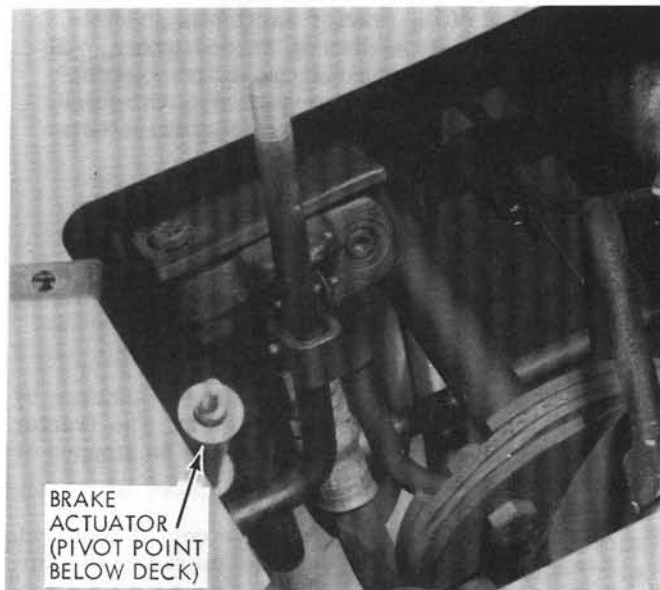

Figure 11.
Refer to the accompanying Lubrication Chart (Figs. 11, 11-A, 11-B, and 12) and the figures stated in the following:
1. BRAKE ACTUATOR AND PIVOT. Grease these pivot points (Figure 11).
3. LIFT LINKS. Sliding surfaces and slotted holes (Figure 11-A). Ref. No. 1
8. FRONT POWER TAKE-OFF (Figure 11-B). Apply grease around tension springs (Ref. No. 2). Grease idler pivot rod (Ref. No. 3).
10. LIFT HANDLE SHAFT PIVOT (Figure 11-A).